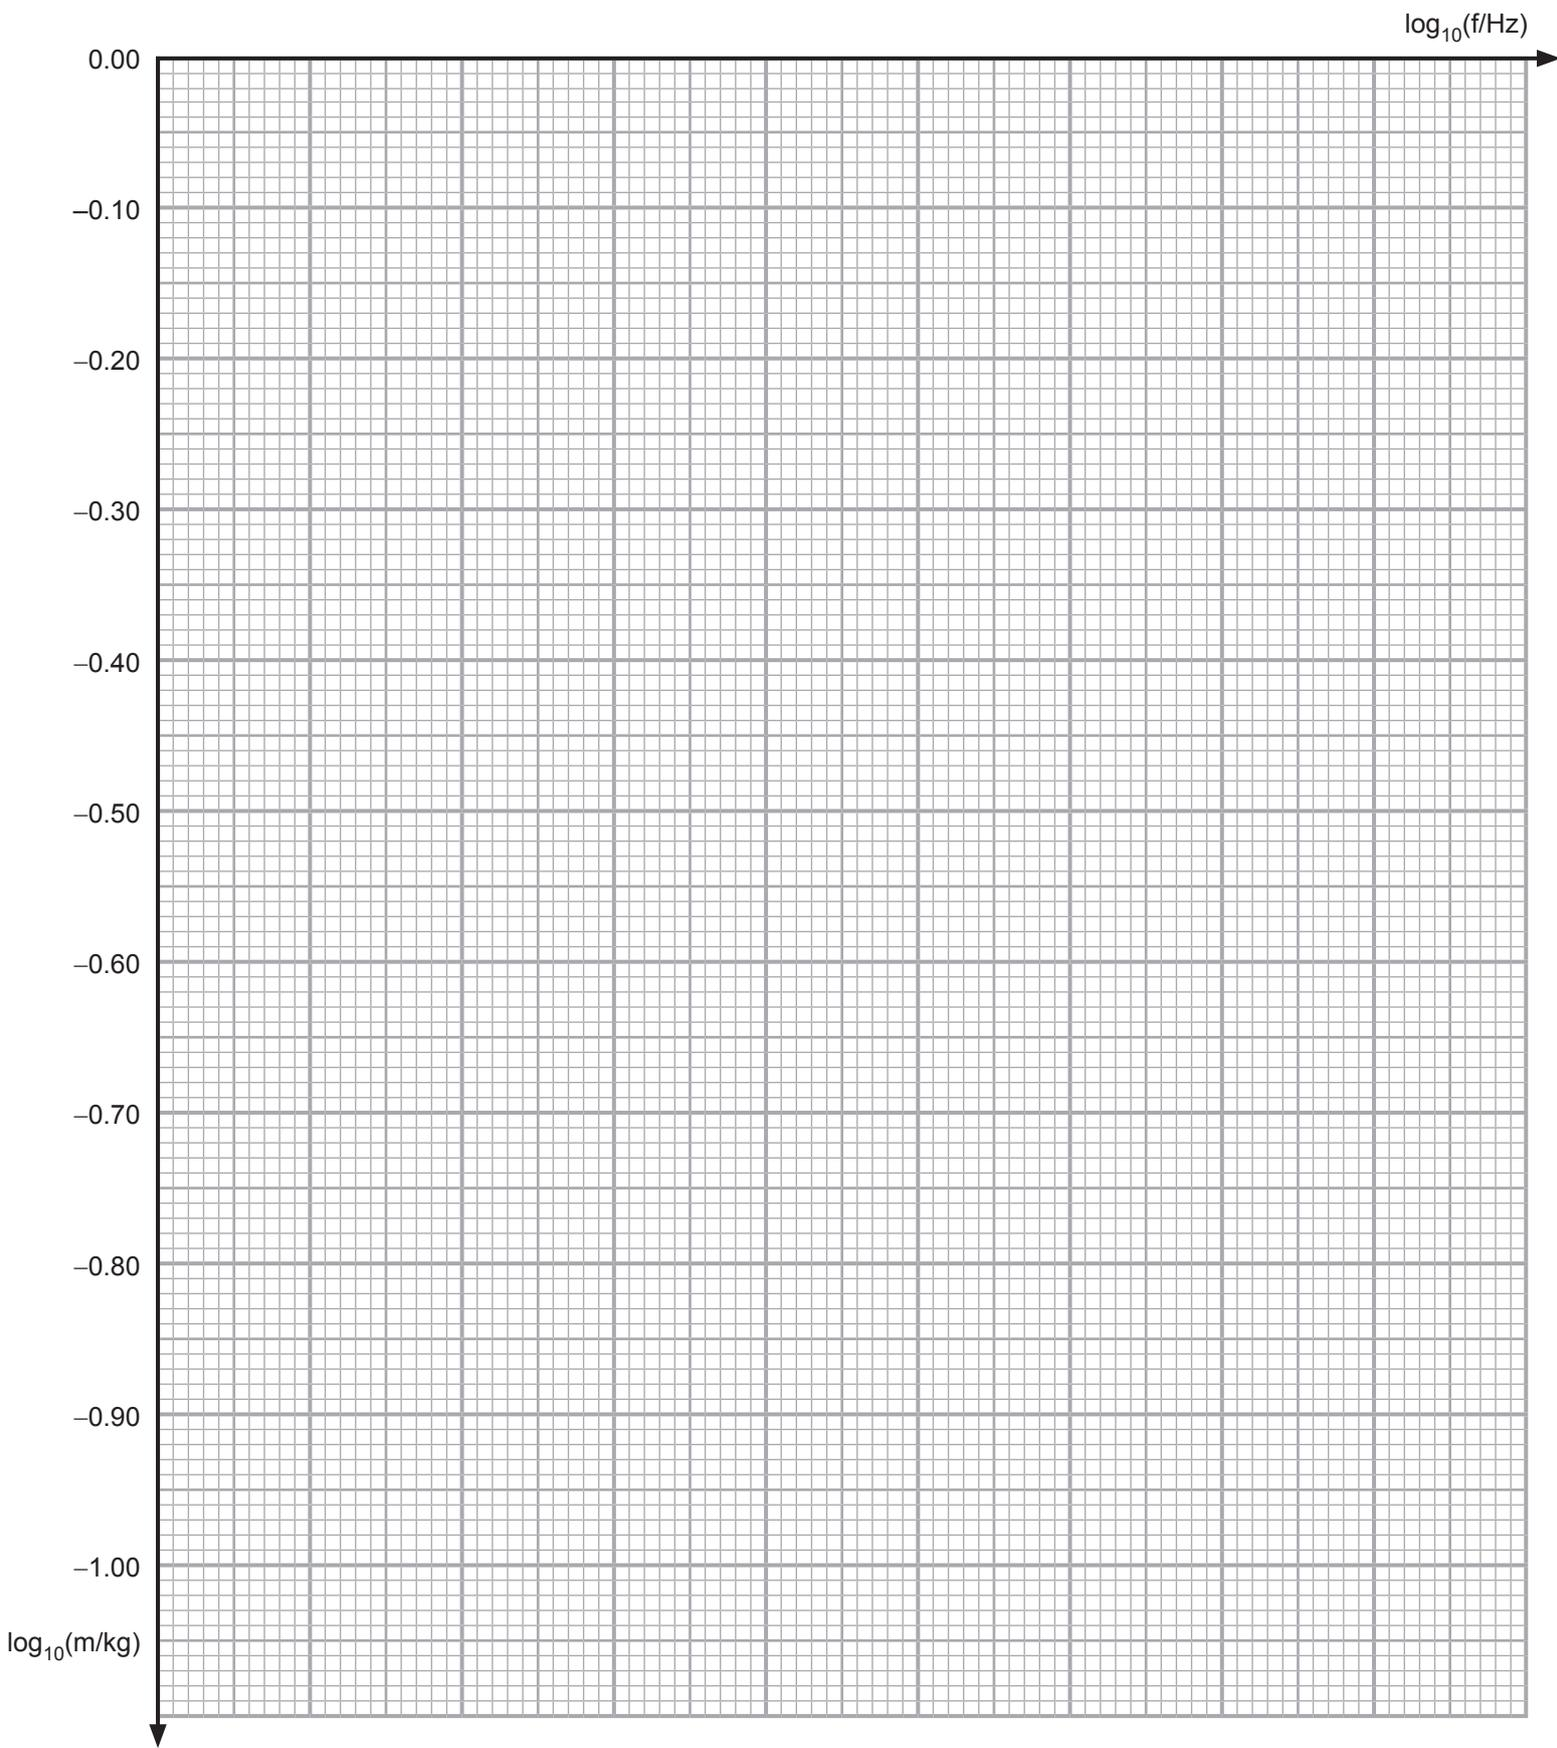

Fig. 1.2
On the graph grid of **Fig. 1.2**, plot the graph $\lg_{10}(m/\text{kg})$ against $\lg_{10}(f/\text{Hz})$. The logarithm to base 10 of the suspended mass is already scaled, scale the x-axis, plot the five points and draw a linear best fit line.
- (i) Determine the gradient of the best-fit line drawn in **Fig. 1.2**.